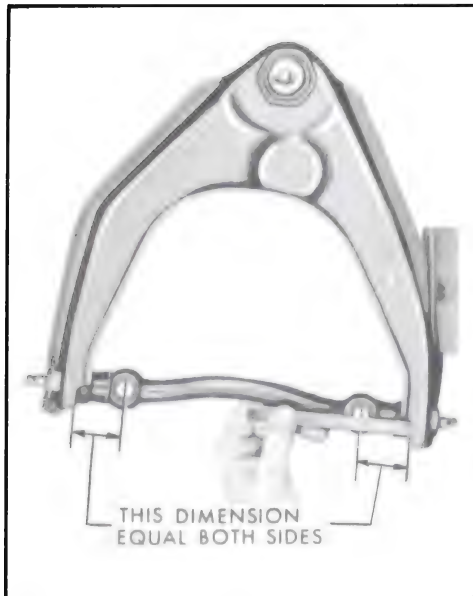

Figure 7-12—Upper Control Arm Shaft Position
6. Rotate shaft to make distance between shaft bolt holes and arm equal both sides as nearly as possible. See Figure 7-12.